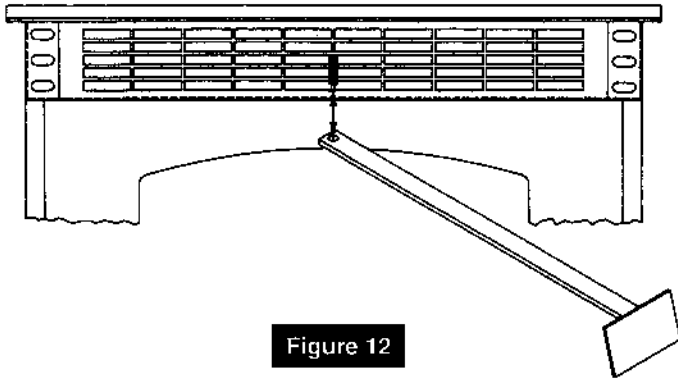

Figure 12
- b. Clean heat exchanger tubes. (See 4.2 and Figure 12)
- b. Clean heat exchanger tubes (see 4.2 and Figure 12).